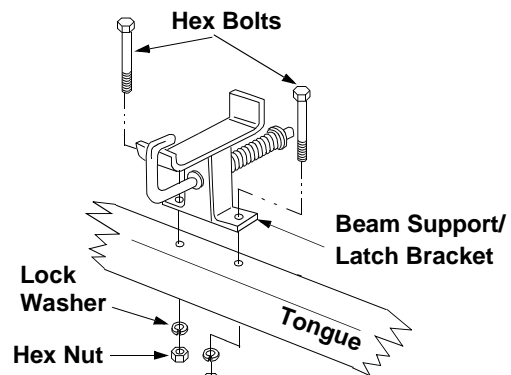

Figure 2
- Remove two hex bolts, lock washers, and hex nuts from the tongue. See Figure 2.